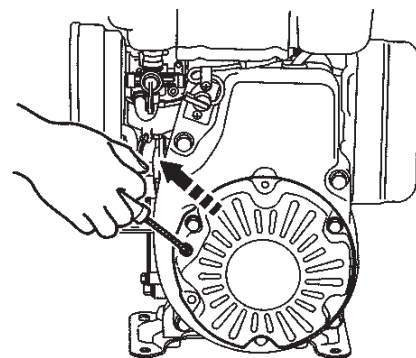

Figure 15. Starter Grip
5. Grasp the starter grip (Figure 15) and slowly pull it out. The resistance becomes the hardest at a certain position, corresponding to the compression point. Pull the starter grip briskly and smoothly for starting.